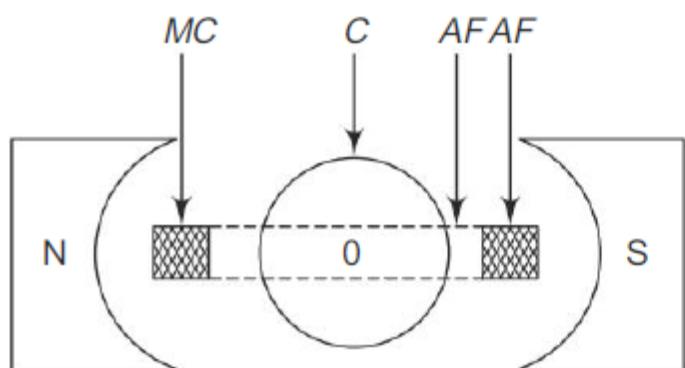

Fig. 7.9
Construction (Refer Figs. 7.9 and 7.10). N and S refer to the pole pieces of a permanent magnet. A soft iron core in the form of a cylinder is placed in the space between the poles (C). In the permanent magnetic field is placed a rectangular coil of many turns (MC) wound on a former (AF). The former is made of aluminium or copper. To the moving coil is attached the spindle (S_p). Two helical springs (S_g) are connected to the spindle to give the necessary control torque. A pointer (p) attached to the spindle is made to move over a calibrated scale.